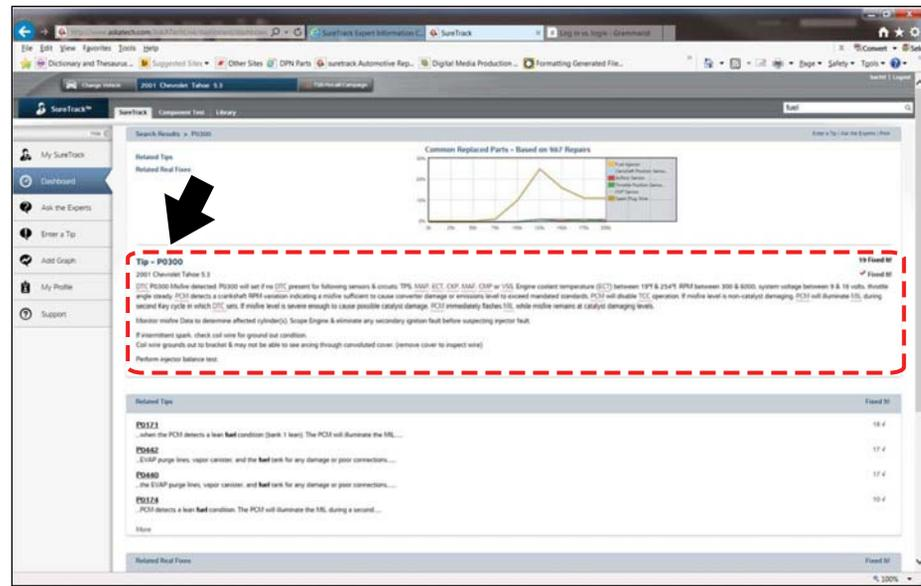

Figure 15-16 SureTrack Tip
- **Tips**—presents a list of Tips that directly correlate to your search criteria. Select a tip from the list to open and review the complete Tip (Figure 15-16). For addition information, see “About SureTrack Tips” on page 160.
SureTrack Tips are concise and complete descriptions of a real fix for a particular vehicle repair issue. A SureTrack Tip is a combination of proven fixes and vehicle specific data we have collected and analyzed into an all-in-one information source to help you fix vehicle problems quickly and easily (Figure 15-16).